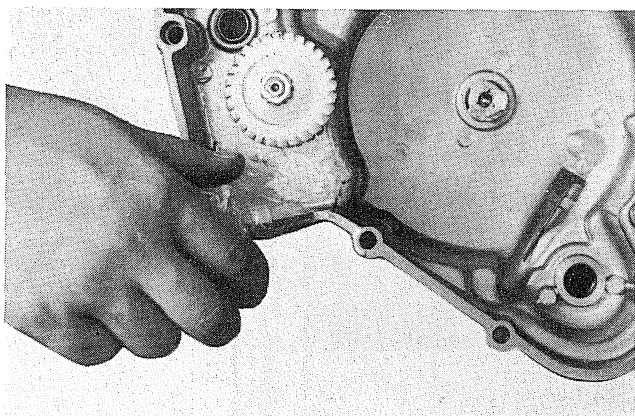

Fig. 3-7-6
Apply the crankcase (R) sealing surface with gasket paste (Yamaha Bond No. 5); and place the crankcase cover gasket upon it, and then install the crankcase cover. (Fig. 3-7-6)